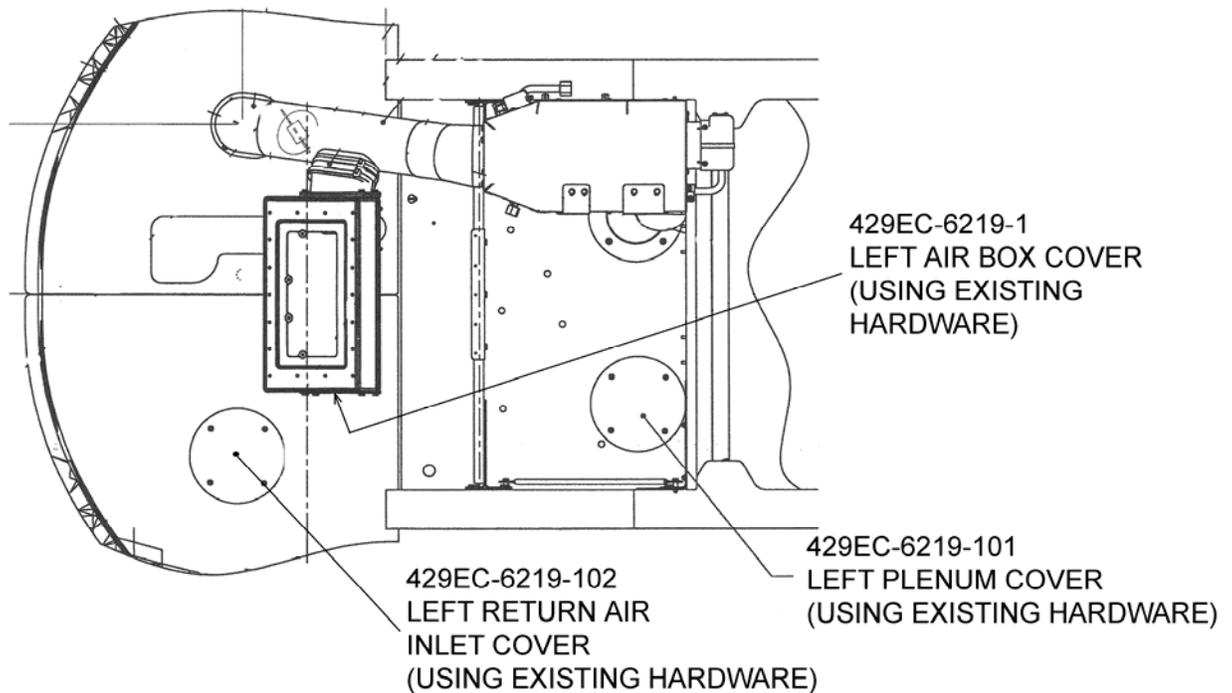

Figure 12: Single Aft Evaporator Air Distribution
1. Install 429EC-6219-1 Left Air Box Cover using existing hardware, see Figure 12.
2. Install 429EC-6219-101 Left Plenum Cover using existing hardware, see Figure 12.
3. Install 429EC-6219-102 Left Return Air Inlet Cover using existing hardware, see Figure 12.